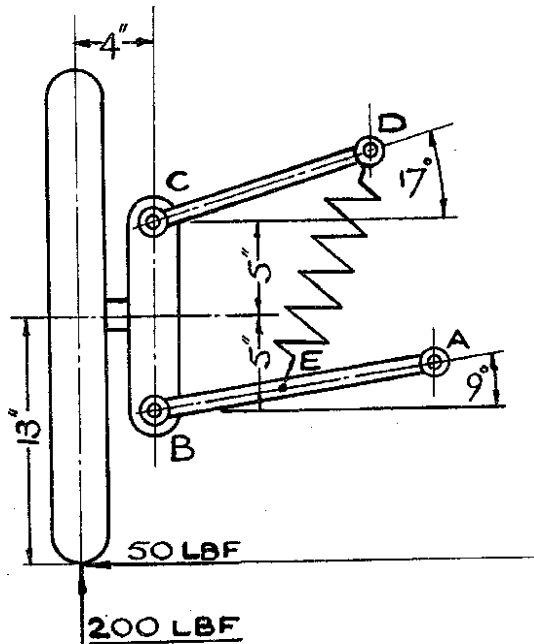

FIGURE 3
6. The suspension unit for the wheel of a vehicle is shown in Figure 3. AB and CD are rigid links, respectively 15 in and 12 in between centres, which are pinned to the wheel support at B and C and to the frame of the vehicle at A and D. A suspension spring is attached to pin D and to a pin E on AB where BE = 7 in.